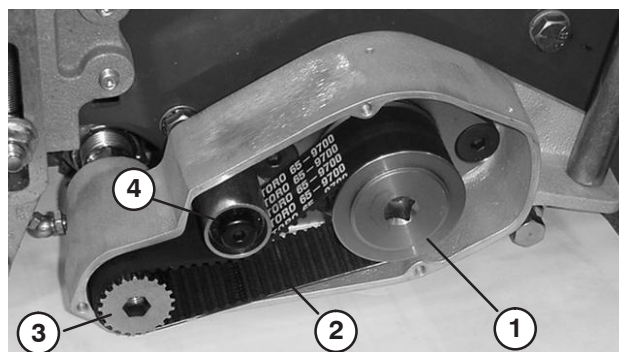

Figure 6
14. Thread the drive pulley onto the left reel shaft extension (Fig. 6). Secure the reel from turning with a wood block and torque the pulley to a minimum of 17 ft.-lb.
15. Install the toothed drive belt around the drive pulley and driven pulley and under the backside idler (Fig. 6).